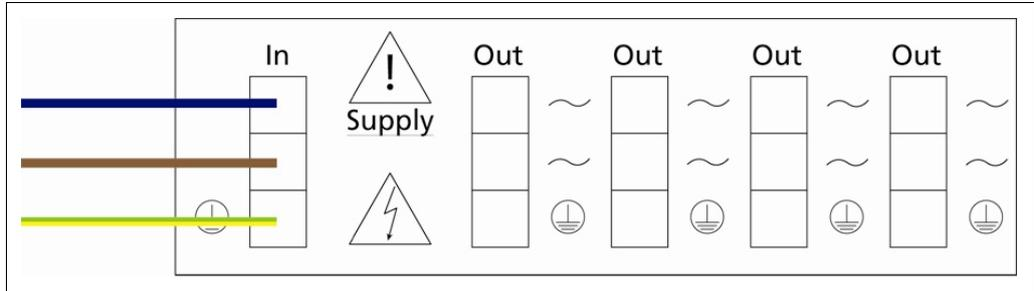

Fig. 5 External power supply for the EVU
3. Connect the external power supply to the EVU (Fig. 5).